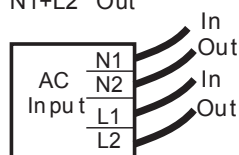

Figure 1 Electrical connection
4. Follow diagram in Figure 1 and cable legend below: